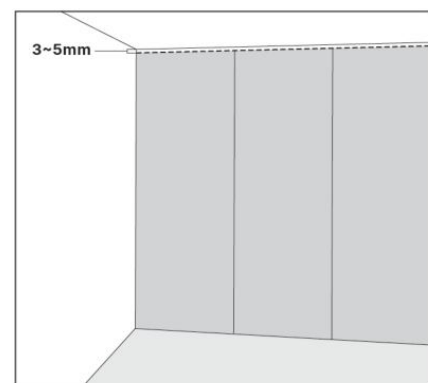

Fig.15
- Maintain a 3-5 mm expansion gap under the ceiling, After at least 12 hours from gluing, fill it with silicone.(Fig.15)